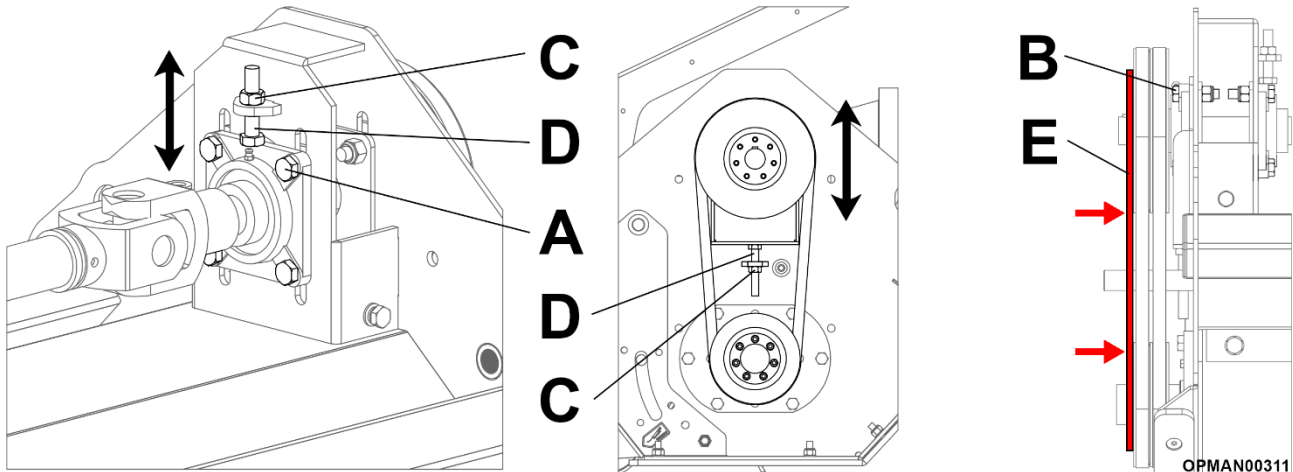

Figure 5.47 – Secondary Belt Tensioning & Pulley Alignment
5.4.6.2 Loosen the bolts on the inner bearing collar; see Figure 5.47 (A) and the bolts on the outer bearing collar; see (B).